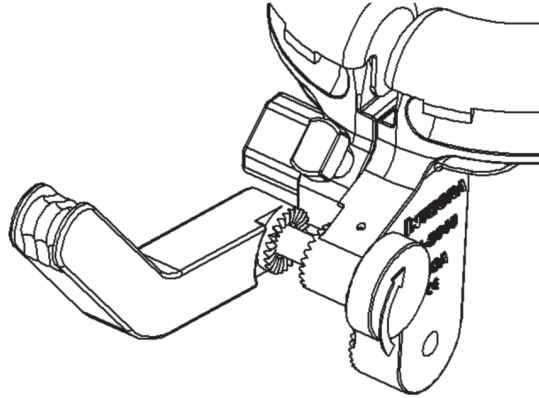

Figure 12
1. Insert threaded portion of the Pulley Rod Knob into the threaded hole of the Pulley Rod such that the starburst teeth of the Pulley Rod are facing the small starburst teeth of the Stationary Horseshoe Faceplate (Figure 12).